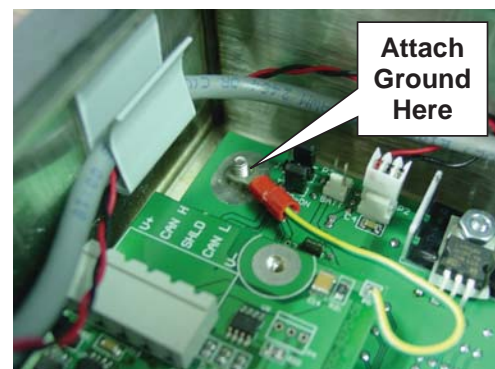

Figure No 7
9. To attach the ground wire, remove a 6-32 nut and washer from the corner of the main board. Refer to Figure No. 7.